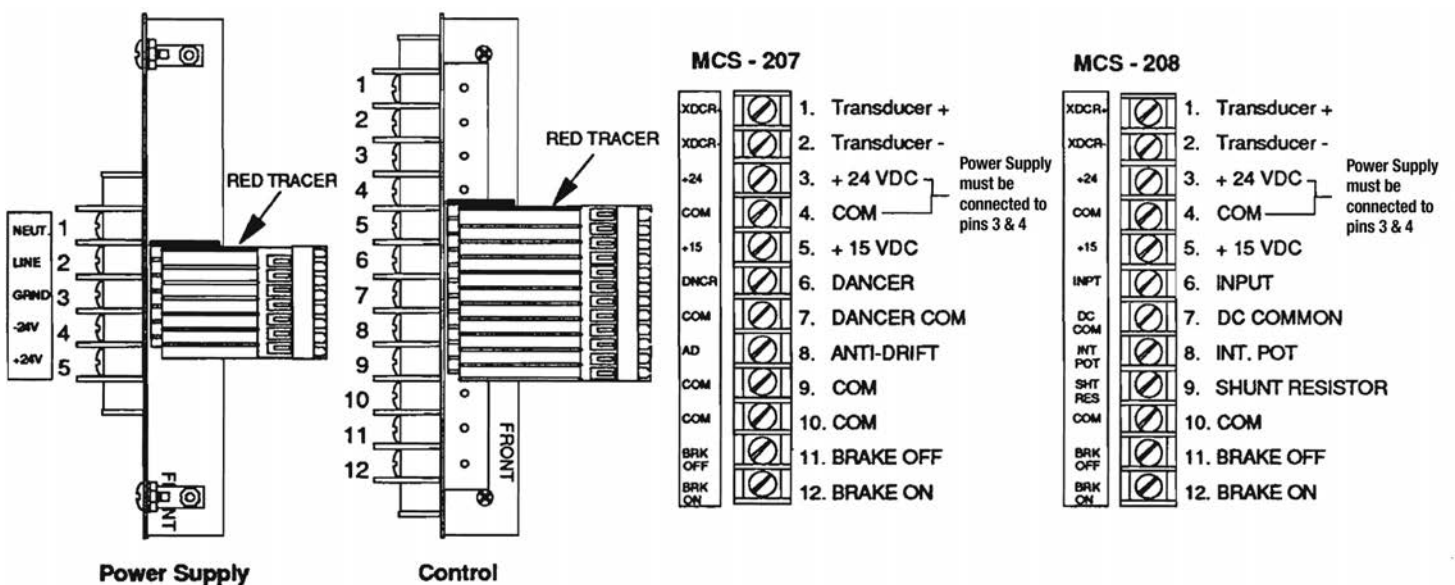

Figure 7. Terminal strip label orientation for Panel Mount
- 5. Apply the terminal strip label to the housing panel near the terminal block as shown in Figure 7.